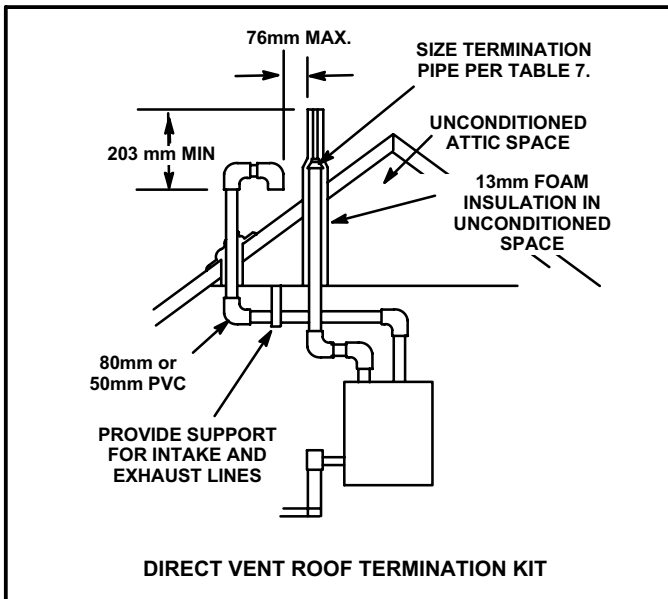

FIGURE 22
NOTE - In Direct Vent installations, combustion air is taken from outdoors and flue gases are discharged to outdoors. Intake and exhaust pipes may be routed either horizontally through an outside wall or vertically through the roof. In attic or closet installations, vertical termination through the roof is preferred. Figures 22 through 25 show typical terminations.
- 4 - On roof terminations, the intake piping should terminate straight down using two 90° elbows (See figure 22).